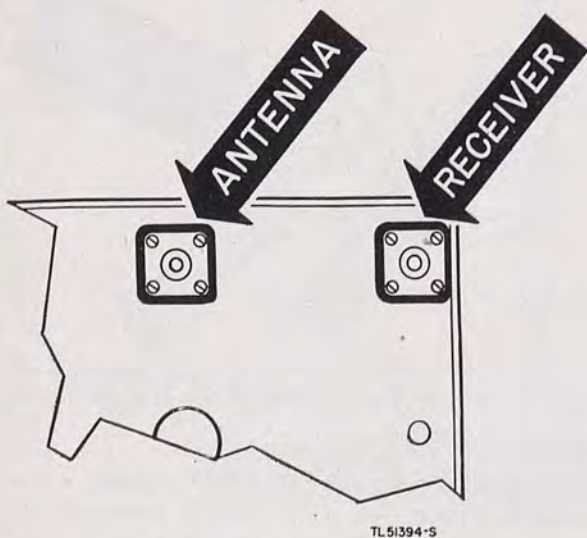

Figure 11. ANTENNA and RECEIVER, Radio Transmitter T-14(\*).
(15) *Receiver receptacle* (fig. 11). This receptacle engages the plug of the cord used to interconnect the antenna circuit of the associated receiver.
(16) *Antenna connector* (fig. 11). The receptacle for the antenna transmission line Cord CD-800 (50-foot).